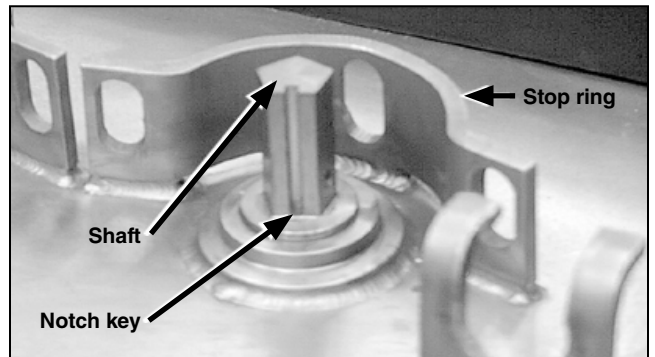

Figure 97. The shaft notch key.
**Note:** It may be necessary to manually rotate the motor operator shaft (by twisting the operating disk) to line up the operator key with the shaft notch key. See Figure 97.